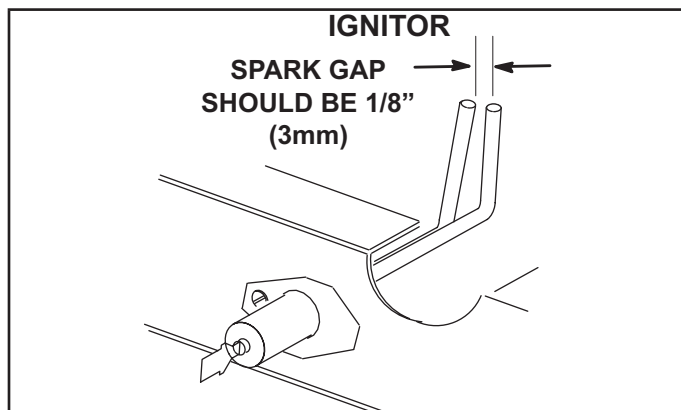

FIGURE 32
- 5 - Locate the ignitor under the right burner. Check ignitor spark gap with appropriately sized twist drills or feeler gauges. See FIGURE 32.